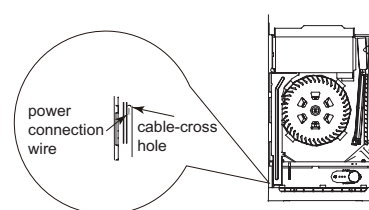

Fig.11
1. Make the power connection wire go through the cable-cross hole of indoor unit. (As show in Fig.11)